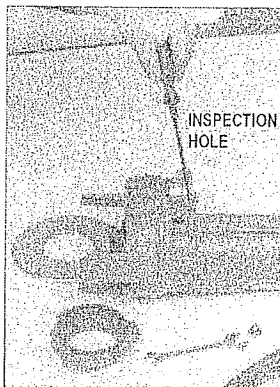

Fig. 10
- Motor compartment, using a checking plug in the motor body. Drain off water, if there is any, dry the motor compartment – Fig. 10 (find out the cause, or remedy – it should be carried out by the authorized service centre).